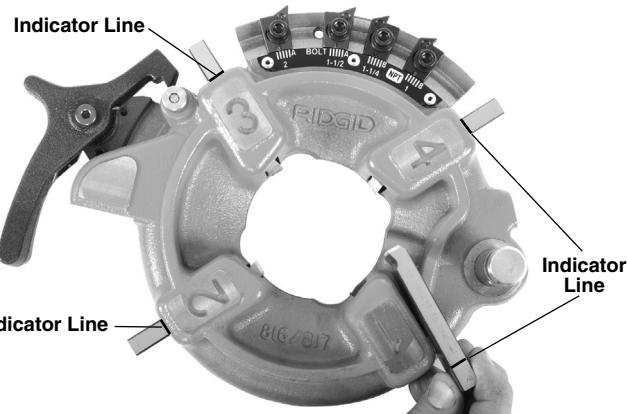

Figure 2 – Inserting Dies
5. Insert appropriate dies into the die head, numbered edge up until the indicator line is flush with the edge of the diehead (see Figure 2). Numbers on the dies must correspond with those on the die head slots. Always change dies as sets – do not mix dies from different sets.